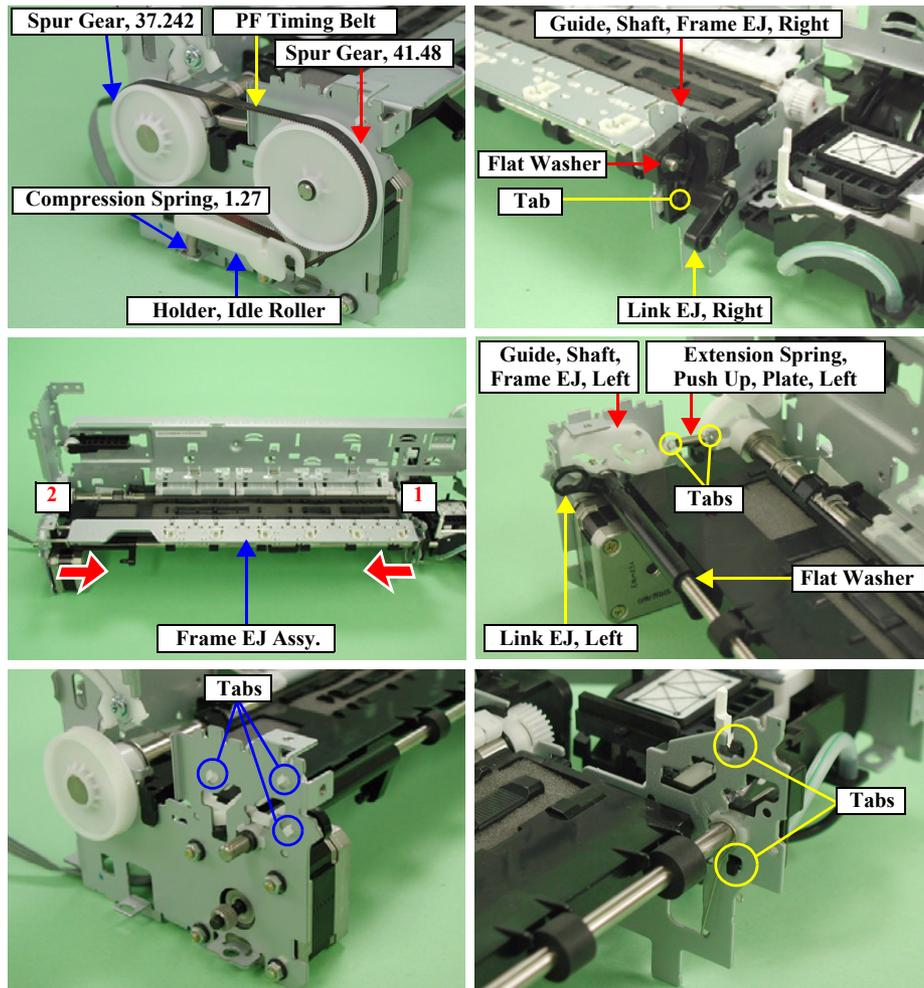

Figure 2-44. Paper Guide, Front/Roller EJ Assy. Removal (1)
5. First slide the Frame EJ Assy. toward the left, and then Slide the Frame EJ Assy. toward the right and remove it as shown in Figure2-44.